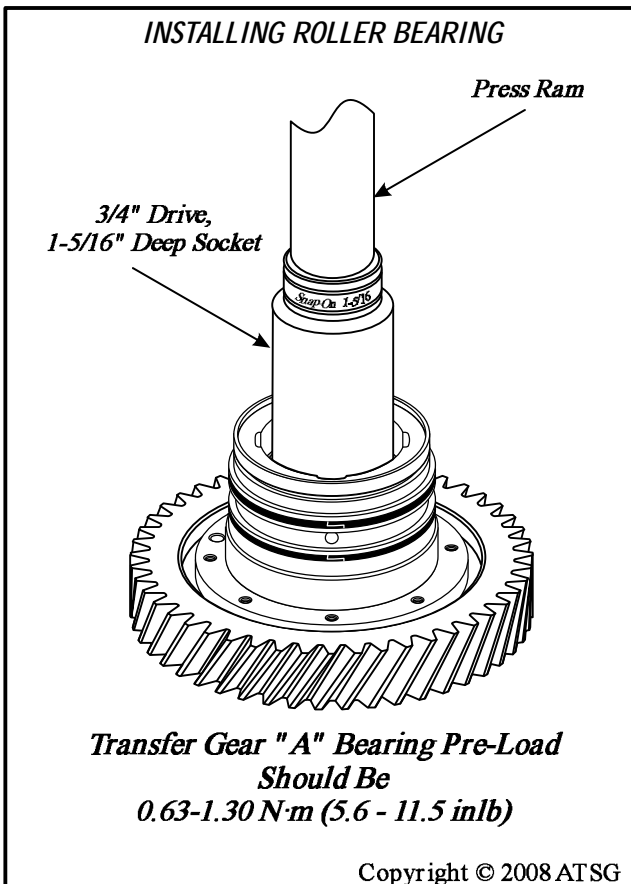

Figure 73
20. Install roller bearing over the shaft, as shown in Figure 73.
21. Use press to install roller bearing, as shown in Figure 73, and this is where we will set the roller bearing pre-load. This will require that you release the press several times to check the bearing pre-load.